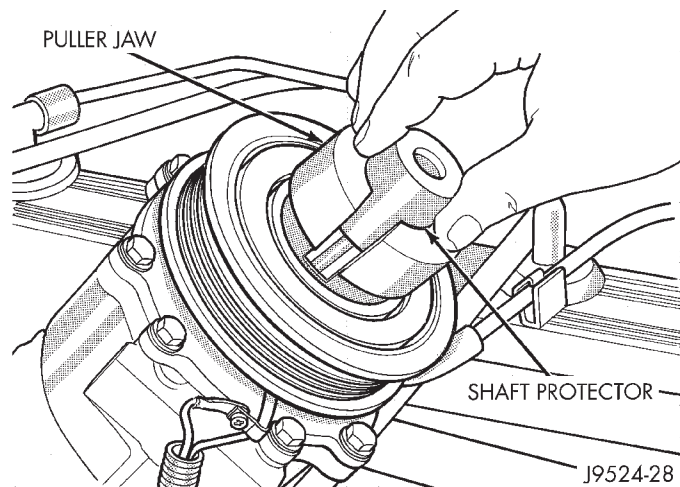

Fig. 22 Shaft Protector and Puller
- (10) Install the lip of the rotor puller (Special Tool C-6141-1) into the snap ring groove exposed in the previous step, and install the shaft protector (Special Tool C-6141-2) (Fig. 22).